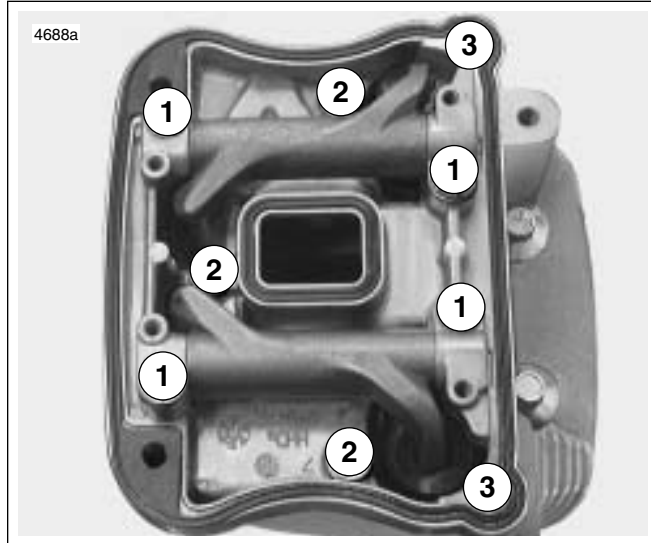

Figure 3-85. Lower Rocker Box Fasteners
9. See Figure 3-85. Install **new** gaskets with the bead facing up. Place lower rocker box assembly (with rocker arms and shafts) into position. Place push rods in rocker arm sockets.
10. See Figure 3-85. Install hardware attaching lower rocker cover to cylinder head in the following order. After loosely installing all fasteners, use a cross pattern on the four large bolts that fasten the lower rocker box to head to tighten and then torque to specifications. This will bleed the tappets. Finish tightening remaining fasteners. Fastener sequences, sizes and torque specifications are listed in Table 3-21.
- a. Tighten bolts (1) to 18-22 ft-lbs (24-30 Nm).
- b. Tighten bolts (2) to 135-155 **in-lbs** (15-17.5 Nm).
- c. Tighten screws (3) to 135-155 **in-lbs** (15-17.5 Nm).